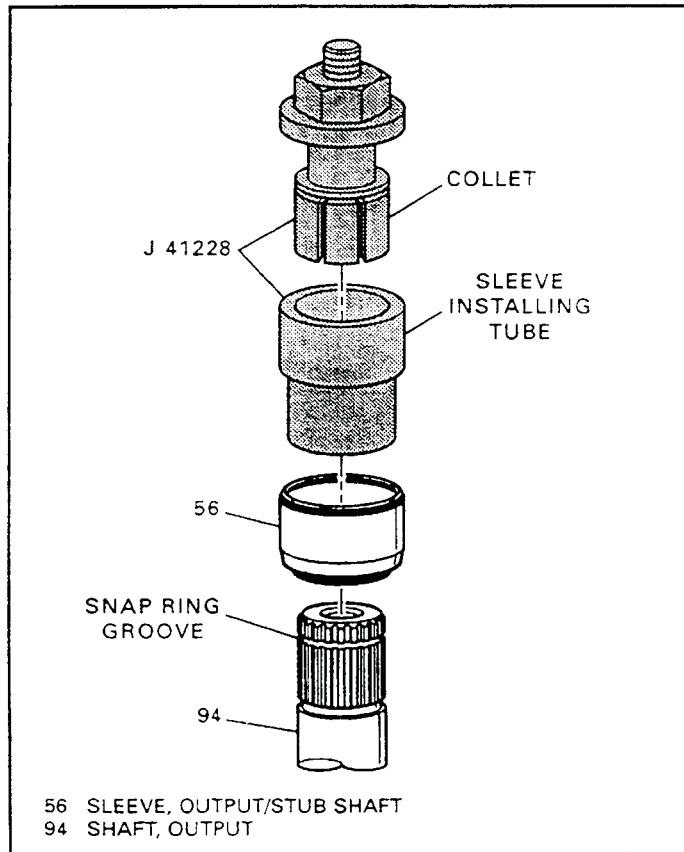

Figure 184
8. Install a **new** output shaft sleeve (56) onto the output shaft, using tool J-41228, as shown in Figure 184.
9. Place a new sleeve over the end of the output shaft as shown in Figure 184.
10. Install the collet into the output shaft snap ring groove with the collet attached to the threaded collet shaft (See Figure 184).
11. Locate the sleeve installing tube over the collet with the small end of the tube fitting securely into the sleeve (See Figure 184).
12. Install the bearing and nut onto the threaded collet shaft (See Figure 184).